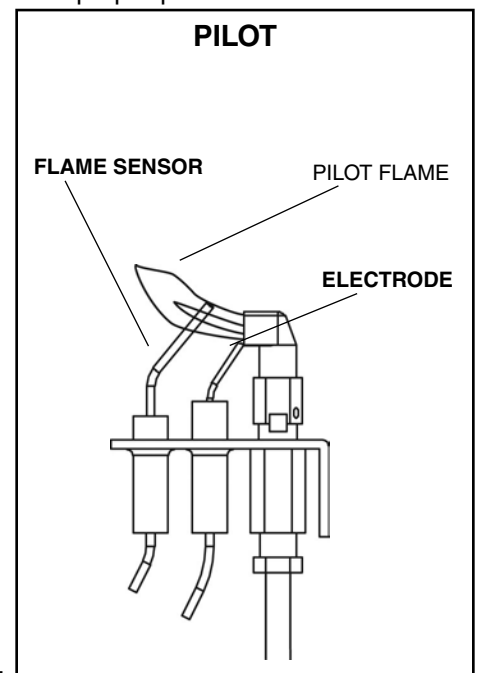

Figure 25: Pilot light.
- b) Check the pilot system for proper flame size and operation. Clean pilot free of soot, dust or any other deposits (Figure 25).